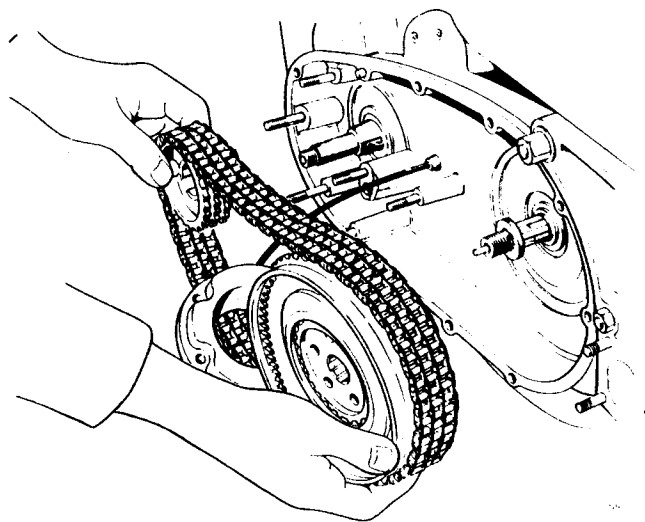

Fig. C16 Removing engine sprocket clutch and primary chain as a set
- 14 For convenience, remove the engine sprocket puller from the sprocket and lift away the remainder of the clutch, the engine sprocket and primary chain as a set as shown in *Fig. C16*, feeding the stator between the runs of the primary chain.